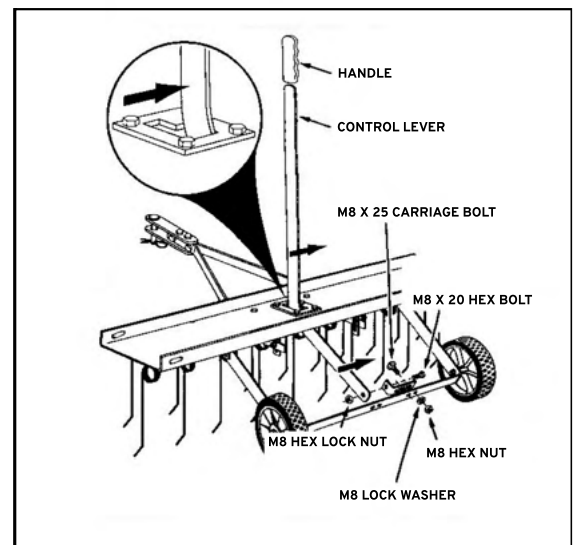

FIGURE 9
a. Attach a drawbar arm mounting bracket to the wheel carrier using two M8x25 carriage bolts, M8 lock washers, and M8 hex nuts. Do not tighten yet. See Figure 9.
b. Pass the control lever through the base plate. Secure it to the previously installed drawbar arm mounting bracket with an M8x20 hex bolt and an M8 hex lock nut. Tighten securely. See Figure 9.
c. Position the drawbar arm mounting bracket so that there is side tension on the control lever when it is locked in the upright position. Tighten the nuts. See Figure 9.
d. Attach the handle to the end of the control lever. See Figure 9.